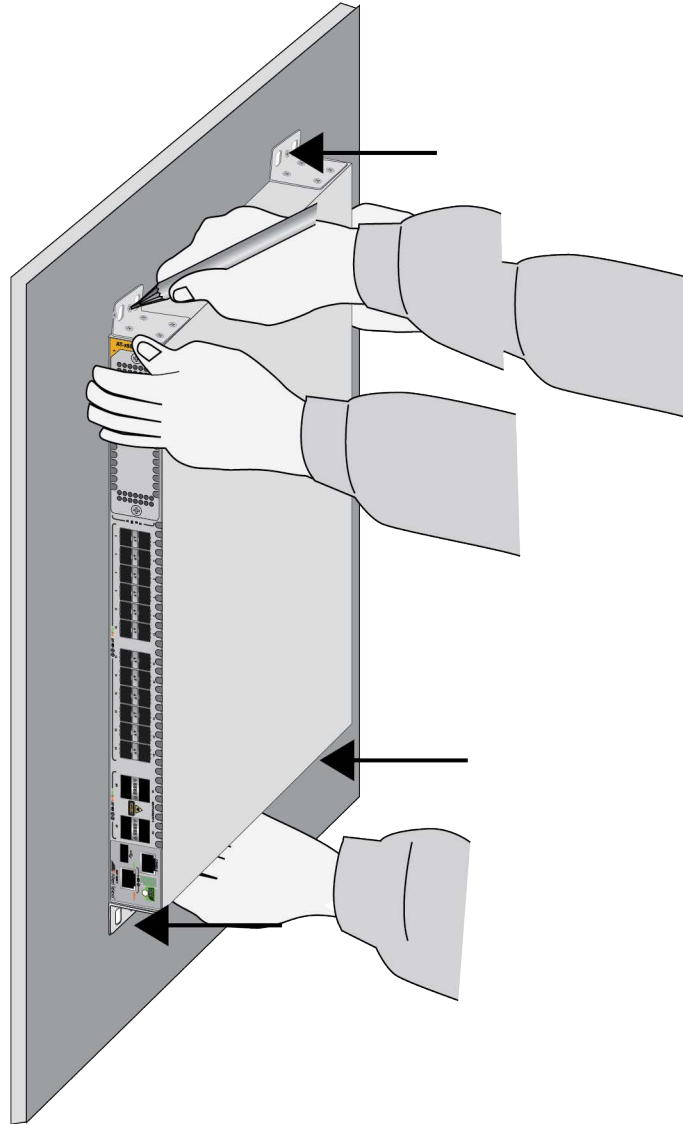

Figure 65. Marking the Locations of the Bracket Holes on a Concrete Wall
3. Have two people hold the switch on the concrete wall at the selected location for the device while you use a pencil or pen to mark the wall with the locations of the four screw holes in the four brackets. Refer to Figure 65 on page 136.